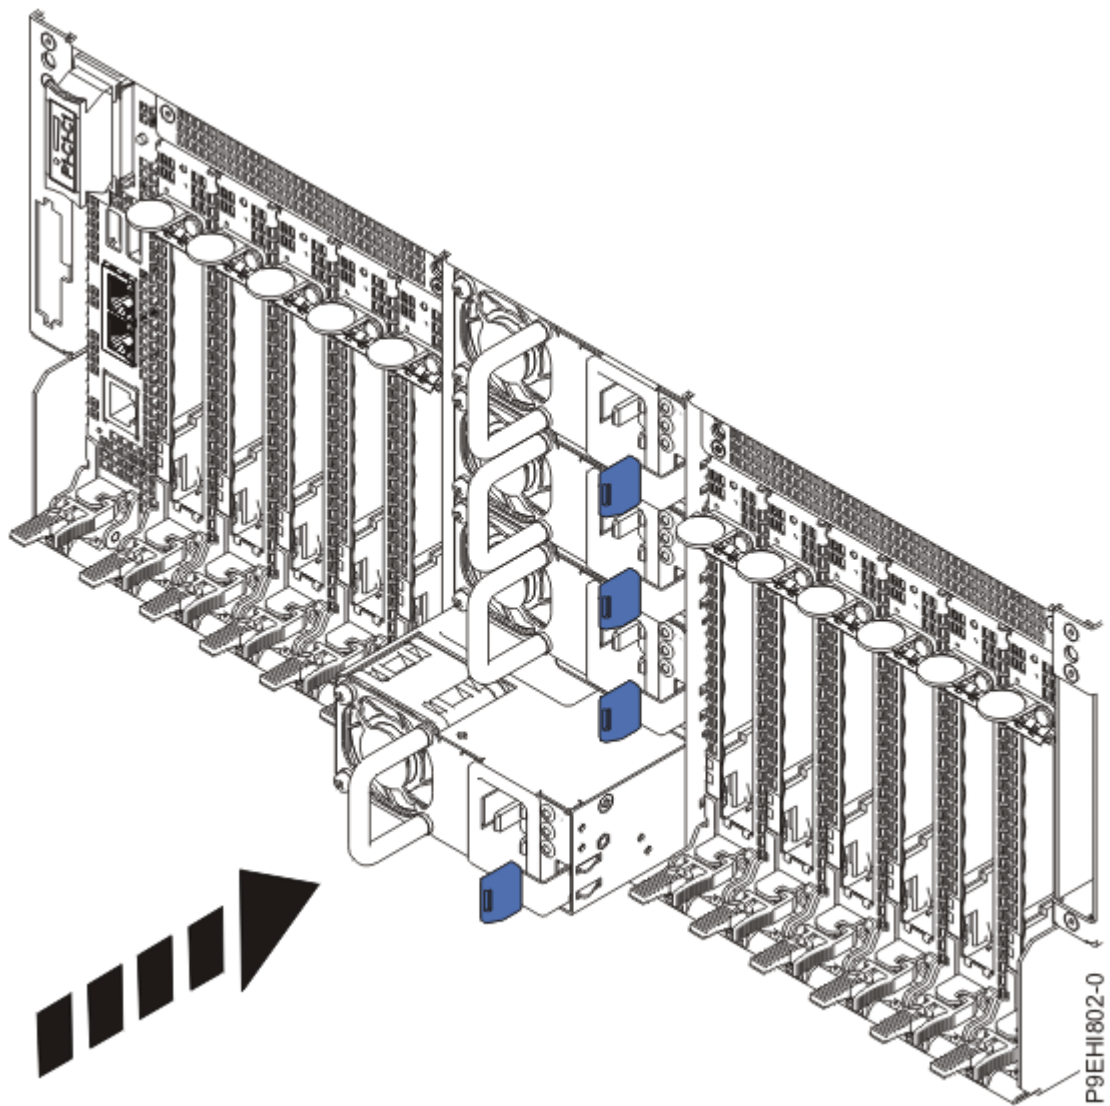

Figure 27: Replacing a power supply in the system
3. Align the power supply with the bay and slide the power supply into the system until the latch locks in place, as shown in Figure 27 on page 28.